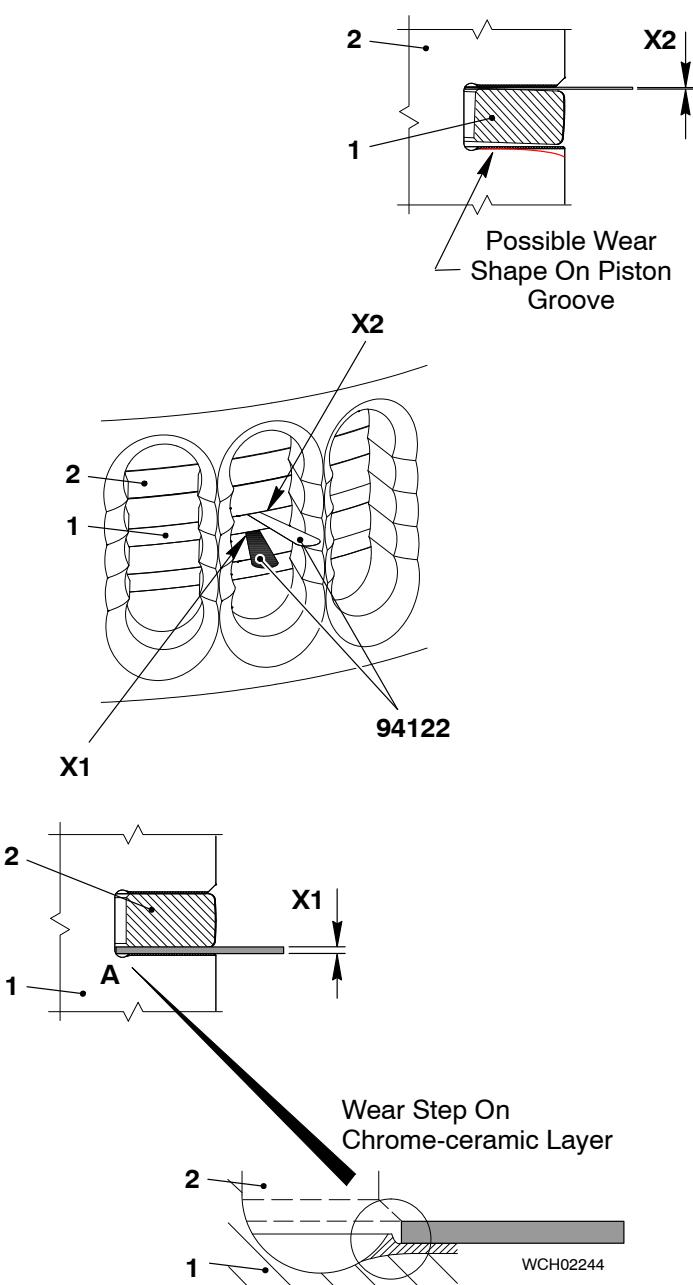

Fig. 3
- 1) Use the turning gear to move the piston (2, Fig. 3) down.